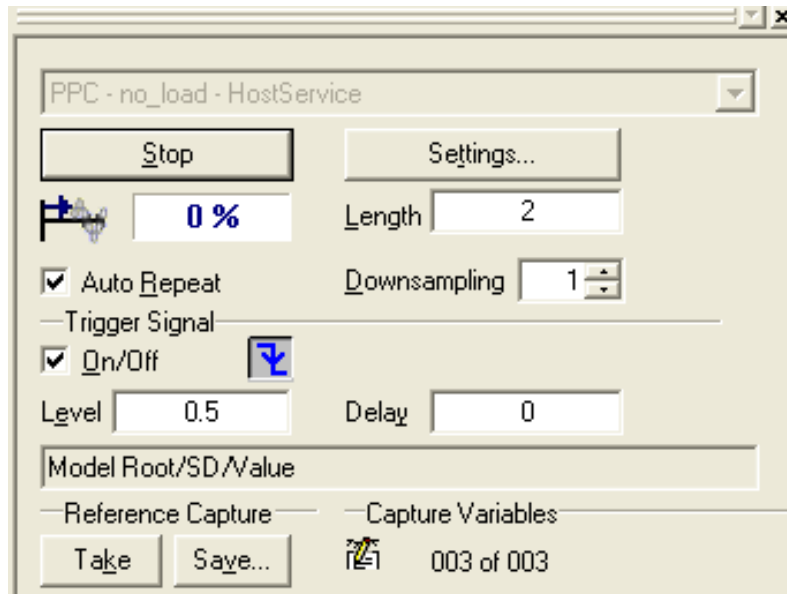

Figure 4.7: Capture Settings
- In the Capture Settings Window (View→Controlbars→Capture Setting Window) the following modifications must be made: Increase the display length to 2 seconds and change the Trigger Signal to SD (Fig 4.7).